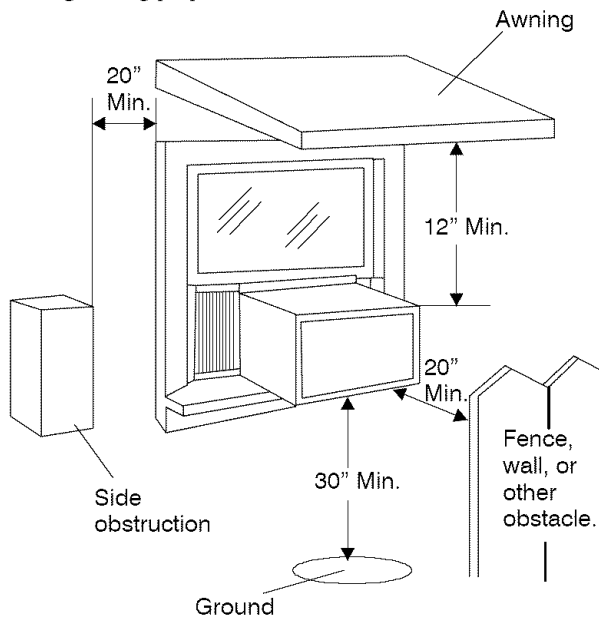

Fig. 5 – Air Conditioner Clearances
- Provide sufficient clearance around the cabinet to allow for ample air circulation through the unit (see Fig. 5). The rear of the unit should be outdoors and not in a garage nor inside of a building. Keep unit as far away as possible from obstacles and obstructions and at least 30" above the floor or ground. Curtains and other objects within a room should be prevented from blocking the air flow.